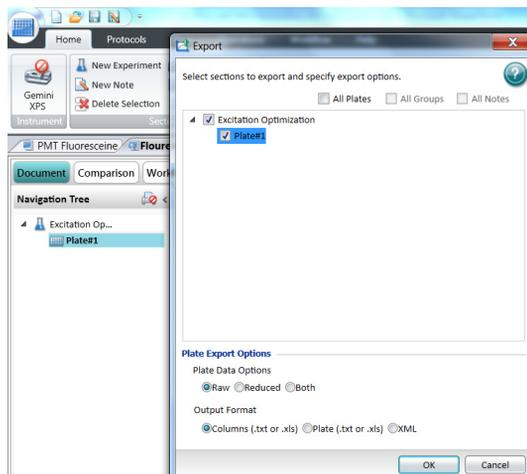

Figure 14. Plate Export Options defined for SoftMaxPro 6 and 7.
- 3 Select the correct plate and the correct mode to export. In the **Plate Export Options**, select **Raw** as the **Plate Data Options** and **Columns (.txt or .xls)** as the **Output format**. See Figure 14 on page 23.